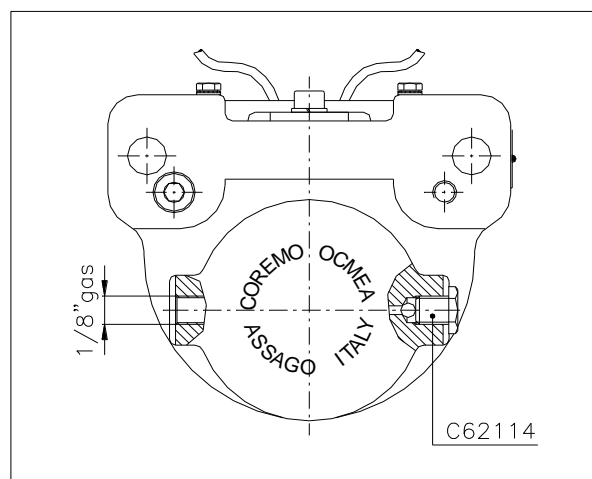

Figure 4
5. The brake also has another bleed as a standard feature. In this case connect the brake to the power line using a $1/8''$ pipe fitting. To bleed the air loosen the cap (C62114). When the circuit has been bled tighten the cap (Figure 4).